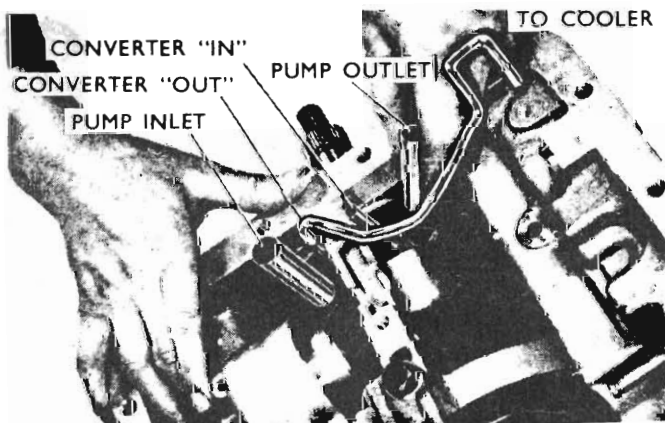

Fig. 29 - Location of oil tubes, front of transmission
(5) Disengage the valve body assembly from the 3 supply tubes at front of the transmission — refer Fig. 29.
(6) Remove the pump intake tube O-ring (from the tube or recess in converter support).